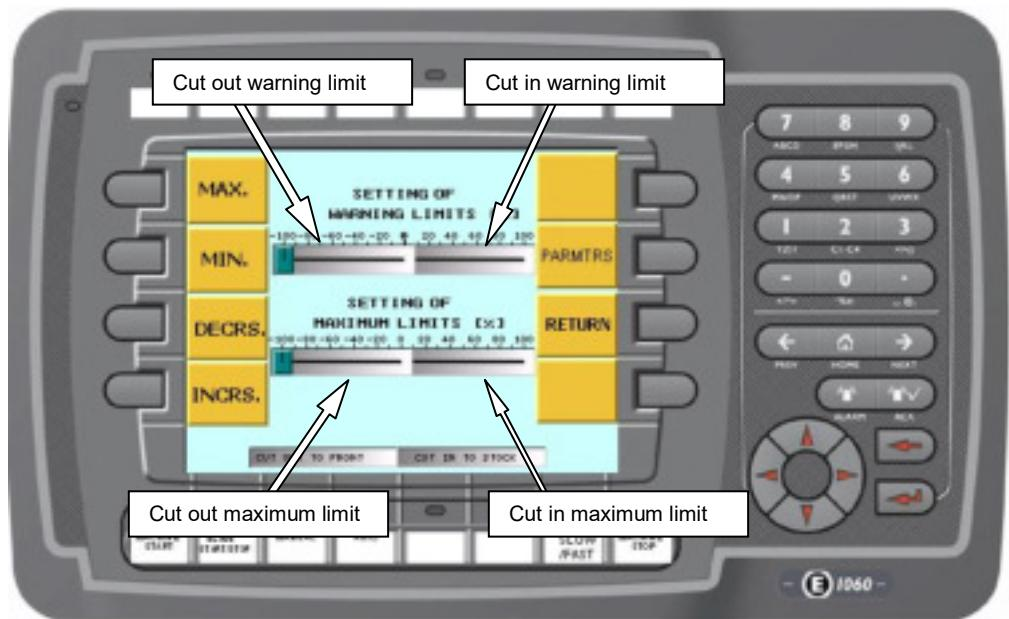

Figure 2 Monitor Limit setting screen.
1. Enter the MONITOR LIMIT SETTING screen by pressing function key F2 labeled LmtSet. The MONITOR LIMIT SETTING screen will be displayed (Fig. 2).
The MONITOR LIMIT SETTING screen will be displayed (Figure 2).